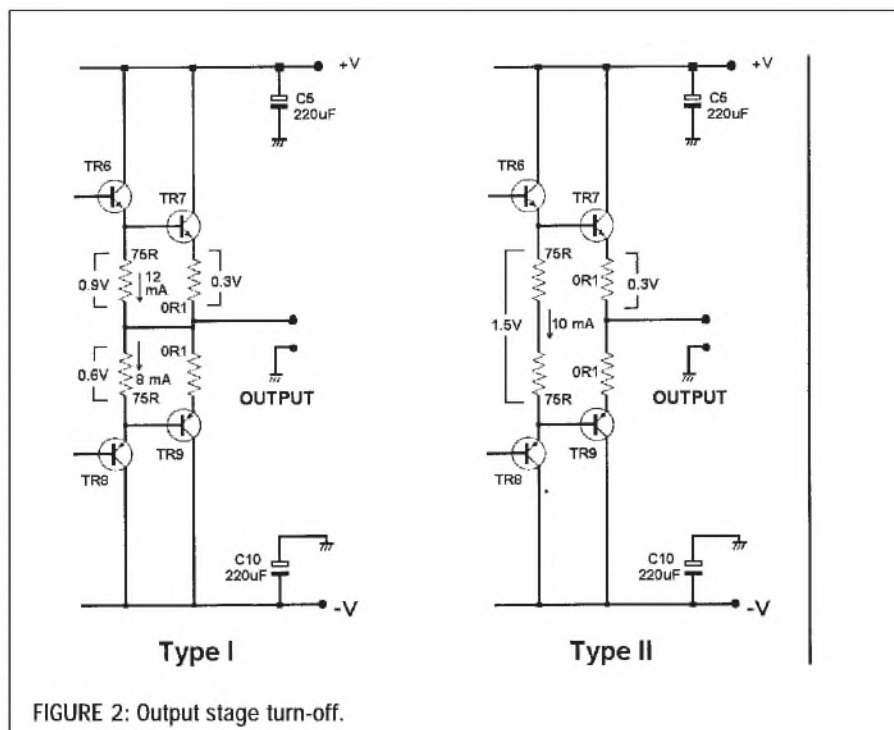

FIGURE 2: Output stage turn-off.
1. Turn-off in EF output stages. In the example Bob gives, the upper output device is sourcing 5A, so the lower output device is already well turned off, and the current available to turn it off more is not a very useful quantity. Figure 2 shows the situation in the two types of stage when the lower device is on the point of turning off. I have used the same bias conditions of 1.5V between the driver emitters, and all Vbe drops are assumed to be 0.6V. The driver emitter resistor is split into two 75R resistors for clarity.